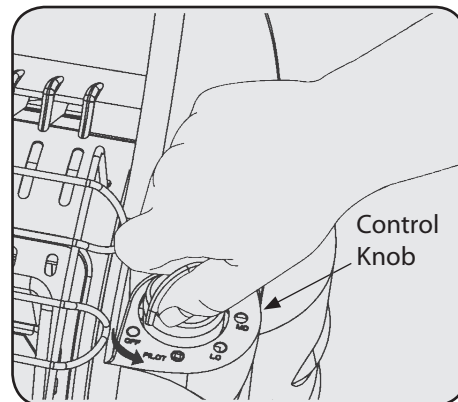

Figure 1
1. Make sure four-position Control Knob is in "OFF" position. See Figure 1.
1. Make sure five-position Control Knob is in "OFF" position. See Figure 1.